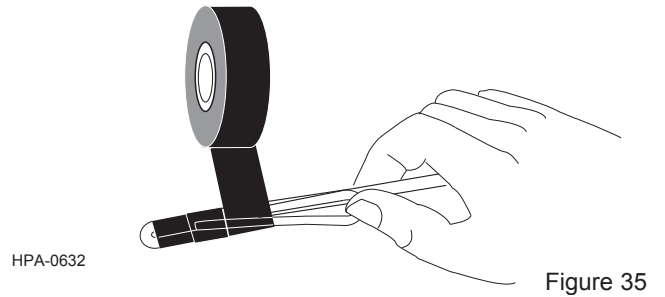

Figure 35
**Step 2:** Tightly bind the three sections together using electrical tape (Figure 35). The end of the cable should rest on the top the other two sections. In this manner, the size is minimized and the cable will fit through a standard 0.5-inch (12.7 mm) opening.